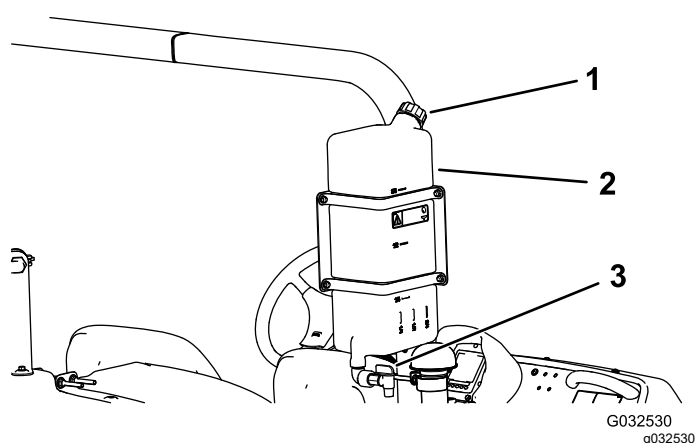

Figure 23
- To fill the tank, unscrew the cap at the top of the tank, fill the tank with fresh water, and install the cap (Figure 23).
- To open the fresh-water tank spigot, turn the lever on the spigot (Figure 23).